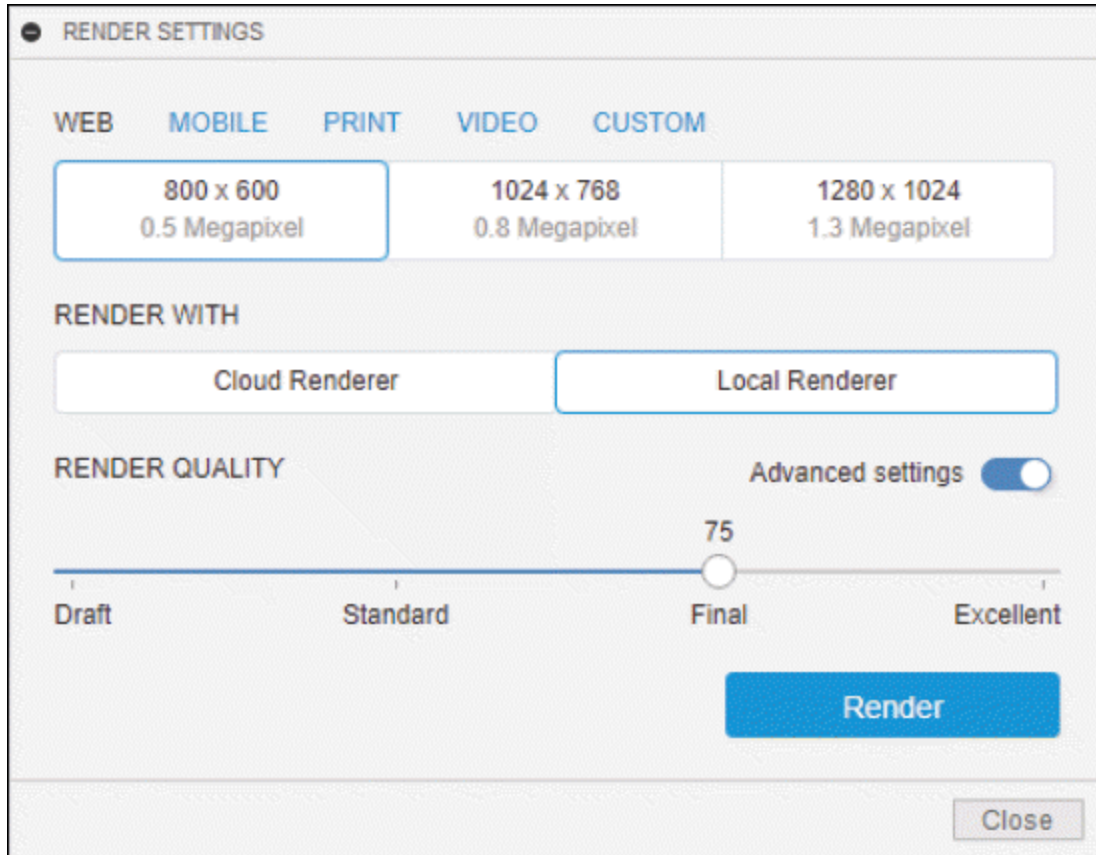

Figure-24. RENDER QUALITY slider in WEB tab
- With **Local Renderer** option selected, click on the **Advanced settings** toggle button from **WEB** tab to manually set the render quality value. The **RENDER QUALITY** slider will be displayed; refer to Figure-24.